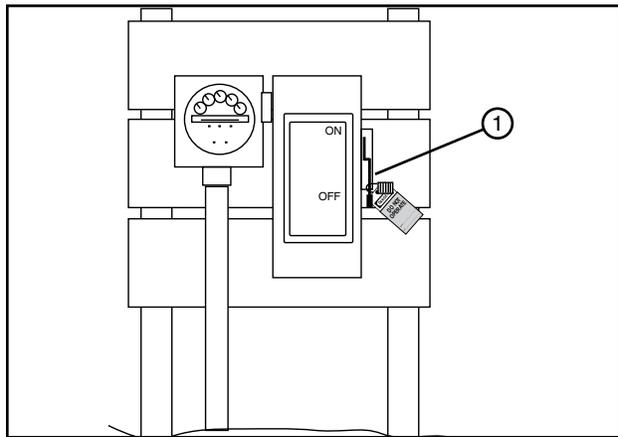

Figure 88-1 1. Public Power Service Disconnect
1. SHUT OFF and LOCK the public power service disconnect to the irrigation machine. See Figure 88-1.
FILL OUT the blue (OSHA safety color code) tag and attach to the disconnect after locking. See Figure 88-1.